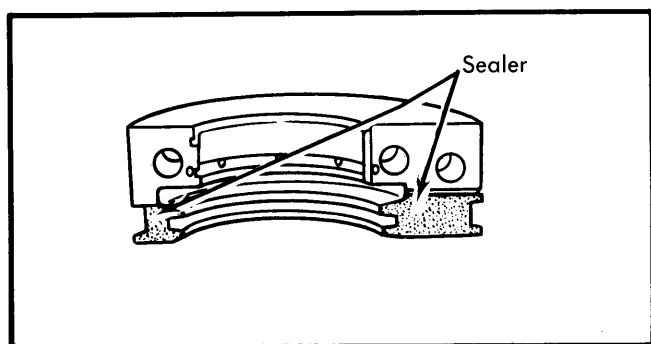

Fig. 8 Sealer Application to Bearing Cap
7) Clean Plastigage from journal and bearing. Apply a thin film of anaerobic sealant to bearing cap as shown in Fig. 8.